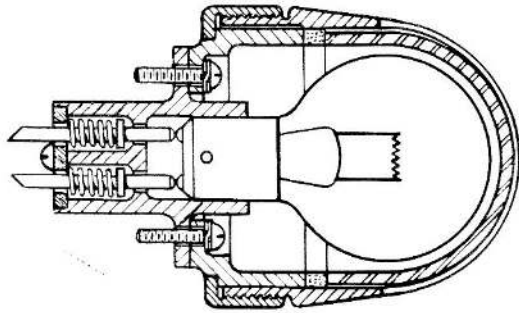

Fig. 2. Sectional drawing of lamp
3. Made mainly of moulded synthetic resin compound, they comprise a socket for the filament lamp, with spring-loaded plunger contacts, a cap support, a screen cap and a union for securing the screen cap. All these parts are moulded. A section drawing of this lamp is shown in fig. 2.